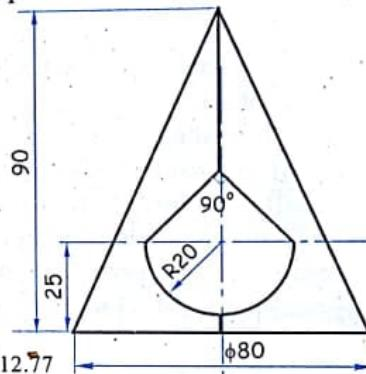

FIG. 12.77
40. Figure 12.77 given below shows the front view of a triangular pyramid resting on its base in the H.P. having a hole as shown. Develop the lateral surface of the pyramid.